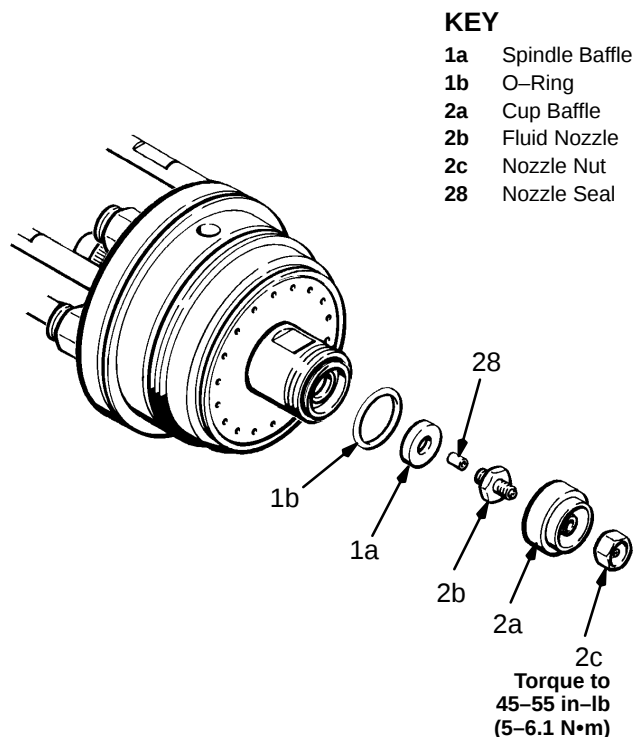
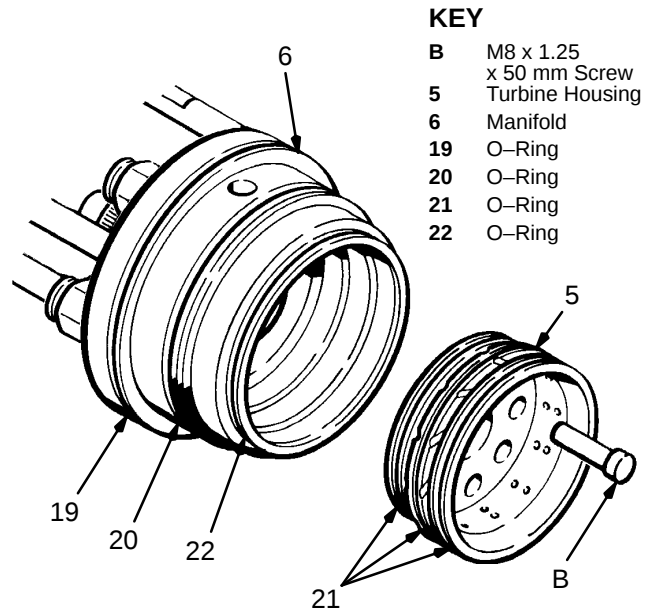

Fig 12
Fig 14
4. Unscrew the nozzle nut (2c), using the 1/2 in. hex driver (23b). Refer to Fig 12.
4. If the o-ring (1b) needs replacement, remove it from the front of the bearing assembly (1), using a dental pick. Refer to Fig 12.
5. If the nozzle seal (28) shows signs of leakage, remove it with a dental pick. Install the new nozzle seal .
6. *To replace the Viton® o-rings (21) on the turbine housing (5), remove the turbine housing from the manifold (6) by screwing in a M8 x 1.25 x 50 mm screw into the hole in the housing. The turbine housing will ease out as the screw is screwed in. Replace the o-rings as needed. See Fig 14.*
7. *Check the three Teflon® o-rings (19, 20, 22) on the manifold (6) for damage and replace as needed.*
1. Be sure the three o-rings (21) are in place on the turbine housing (5). See Fig 14.
5. Be sure the three o-rings (19, 20, 22) are in place on the manifold (6). See Fig 14.